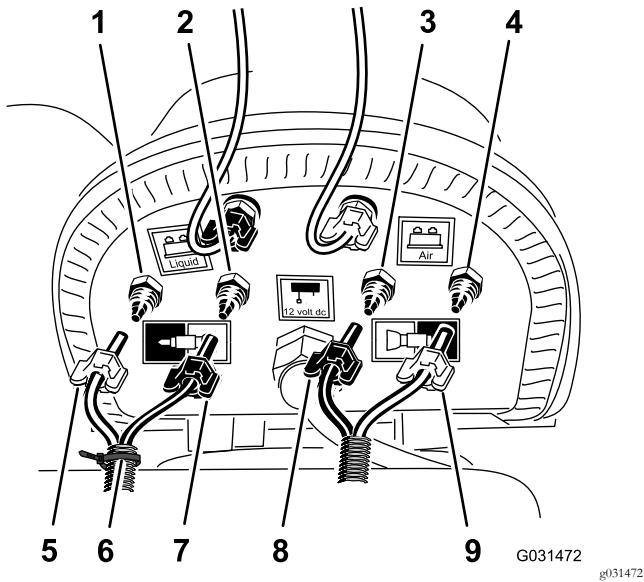

Figure 8
1. At the connection panel of the compressor for the foam marker kit, secure a cable tie around the clear and blue tubing for the right boom section (Figure 8).
2. Loosen the compression nuts for the 2 clear and 2 blue tubes for the foam nozzles at the left and right boom section (Figure 8).
3. Remove the 4 tubes from the compression fittings for the boom sections (Figure 8).